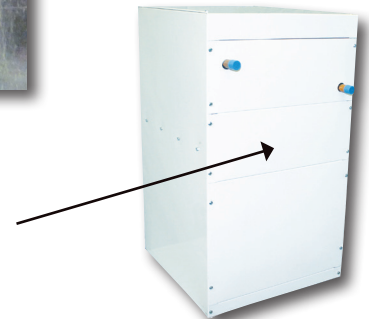

Fig. 8
8. Replace middle access door of air handler. (Fig. 8)